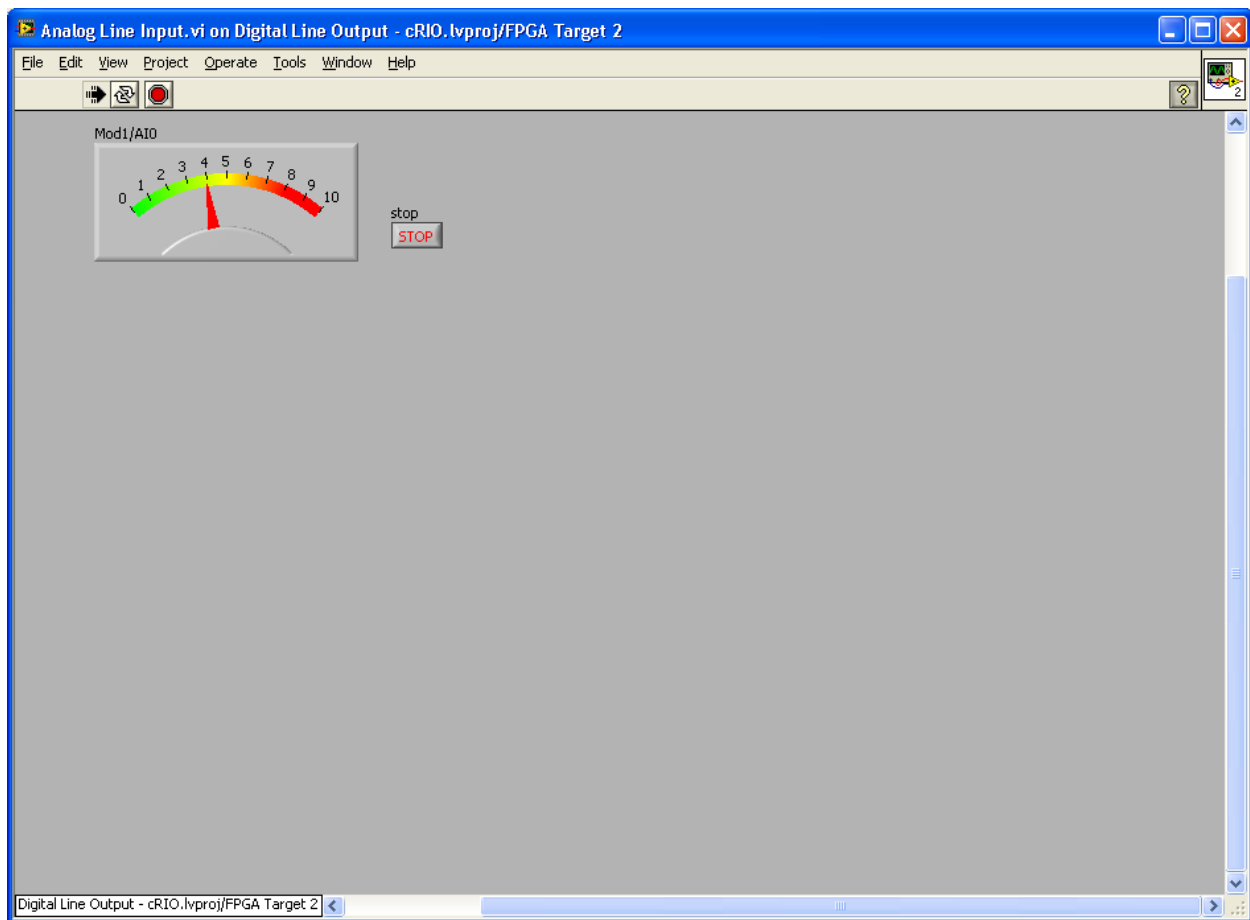

Figure 15 - Analog Line Input.vi – Running
4. Click the Run button to start the VI (Figure 15).